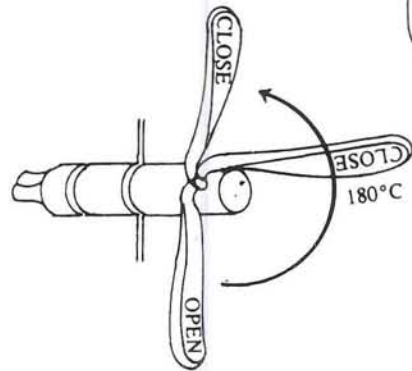

Figure 3b
- Flip the lever 180 degrees up and over to the closed position (Figure 3b). You should begin to feel the lever resist movement as it approaches the halfway point between open and closed.